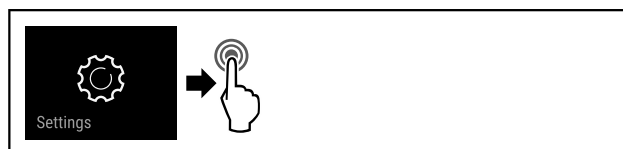

Fig. 116
- ▶ Complete the steps (see Fig. 116) .